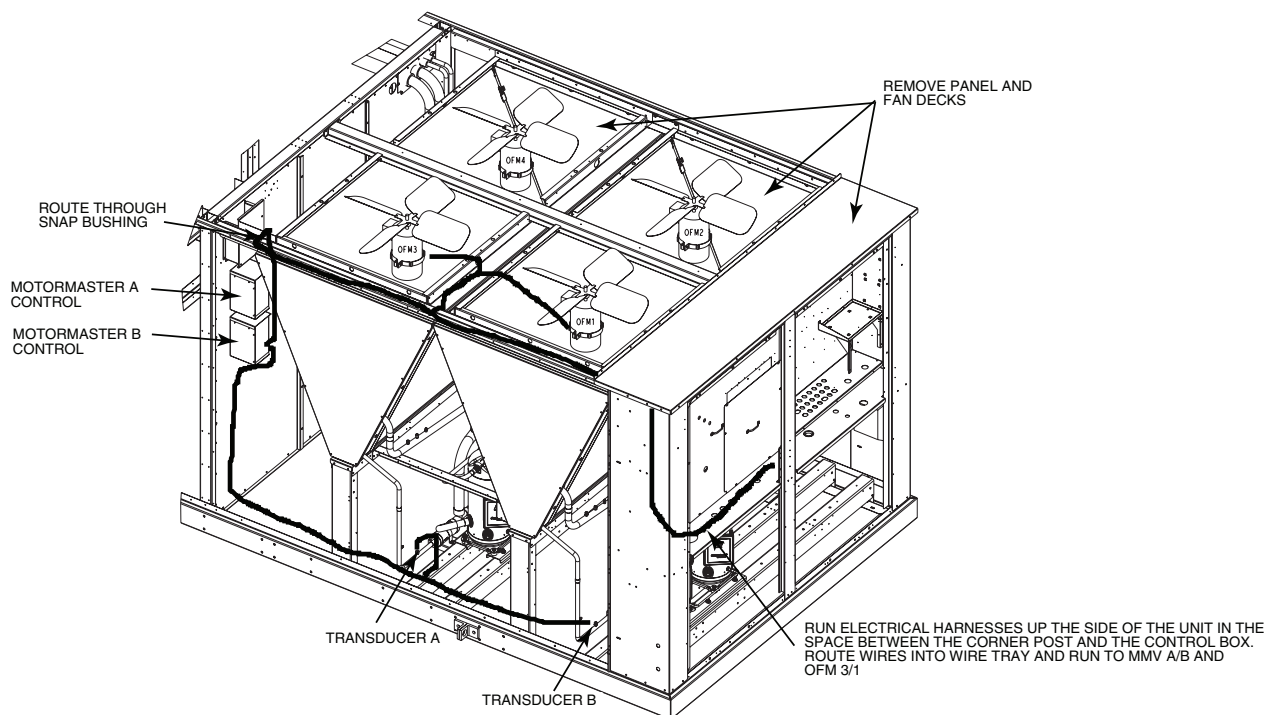
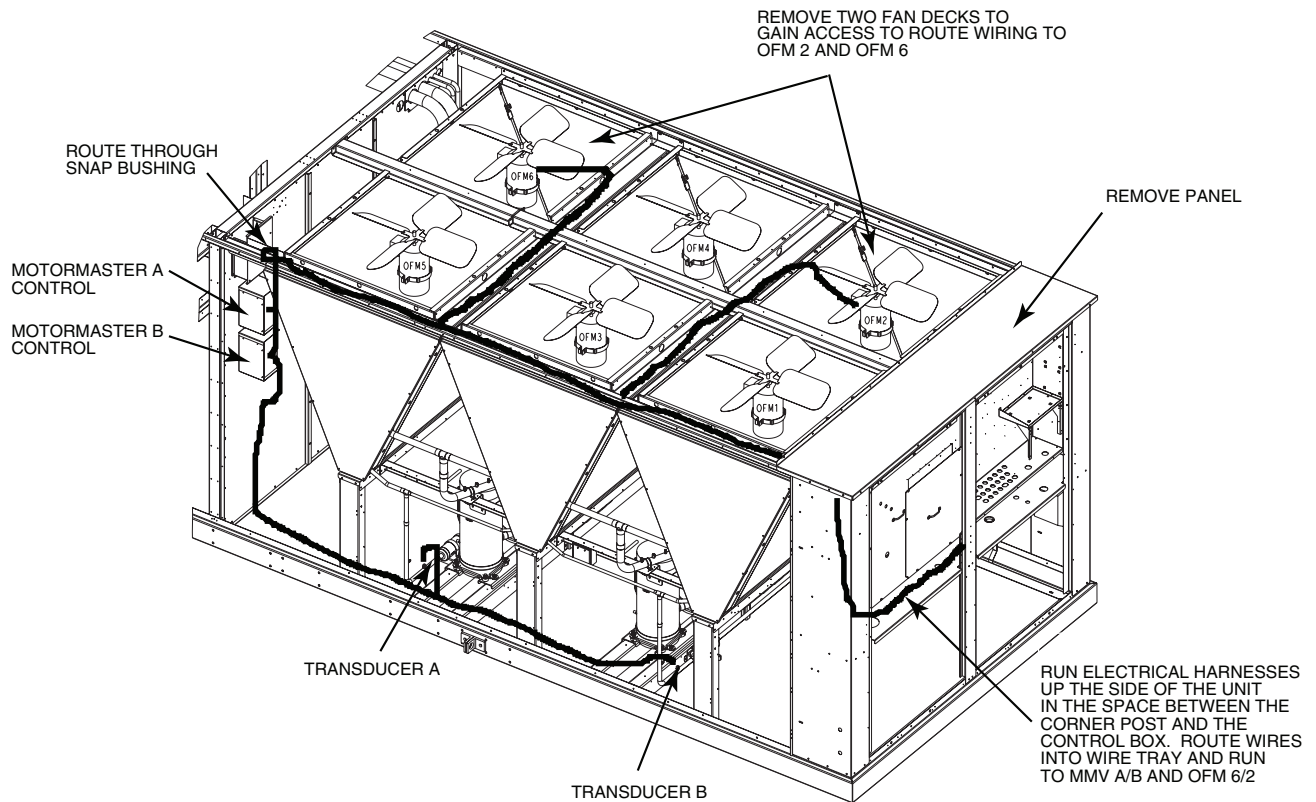

Fig. 9 — MMV Control Mounting — 48/50P070,075 Units
Fig. 10 — MMV Control Mounting — 48/50P090,100 Units
3. Remove fan decks to gain access to each circuit's respective Motormaster controlled OFM, as shown in Fig. 9 and 10.
5. Mount the MMV controller enclosures 30RA500381 on the bulkhead, as shown in Fig. 9 (sizes 070 and 075) and Fig. 10. (sizes 090 and 100) using the mounting brackets 50EJ500656 installed on the enclosures (label 1 as MMV-A and the other as MMV-B). Remove the enclosure covers and install the 1/2-in. HW60EA001 and 1-in. HW60HH006 connectors in the holes in the lower right hand side of the enclosures.
7. Plug transducer cables 48EJ403240 into transducers (label stripped end of circuit A cable as MMPT-A and the stripped end of circuit B cable as MMPT-B). Run cables along inside of unit base rail and up the corner post to the MMV enclosures, as shown in Fig. 9 and 10.
In the main control box, disconnect black, red, blue, and green wires from load side (terminals 21, 22, 23) of OFC1 and OFC3 contactors (label cable from OFC1 as OFM1 and cable from OFC3 as OFM3). Pull wires out through the hole in the bottom of the control box and run them up the corner post to the opening of the cable tray on the side of the control box, as shown in Fig. 9. Run the cable through the wire tray to the MMV enclosures.
In Main Control box, disconnect black, red, blue, and green wires from load side (terminals 21, 22, 23) of OFC2 and OFC3 contactors (label cable from OFC2 as OFM2 and cable from OFC3 as OFM3). Pull wires out through the hole in the bottom of the control box and run them up the corner post to the opening of the cable tray on the side of the control box, as shown in Fig. 10. Run the cable through the wire tray to the MMV enclosures.